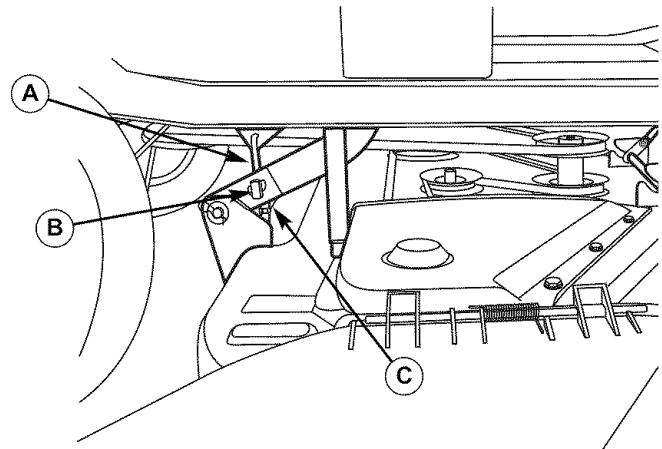

Figure 37. Side-to-Side Adjustment
6. See Figure 37. Side-to-side leveling is accomplished using the threaded rods (A, Figure 37) and trunnion (B) on the right and left rear sides of the mower deck. Loosen the jam nuts (C) and adjust the nuts up or down to adjust the mower level. When complete, tighten the jam nuts against each other to lock the adjustment in place.